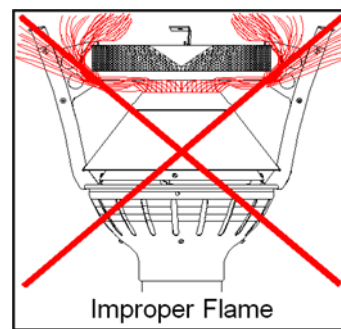

Figure 17: Improper Flame Pattern
5. If at any time flames extend beyond the emitter surface (see image in Figure 17 "Improper Flame") or black soot is found on the inside of the reflector TURN OFF the heater immediately and place OUT OF SERVICE until repairs are made.